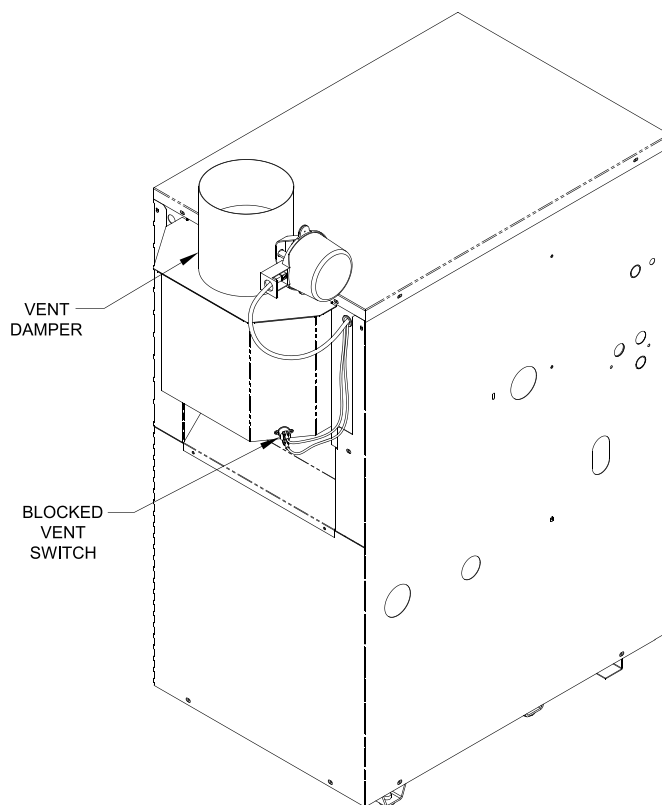

Figure 5-1: Vent Damper Installation
2. Mount vent damper assembly onto draft hood. (Refer to Figure 5-1 and to instructions packed with vent damper for specific instructions). Do not modify either draft hood or vent damper.